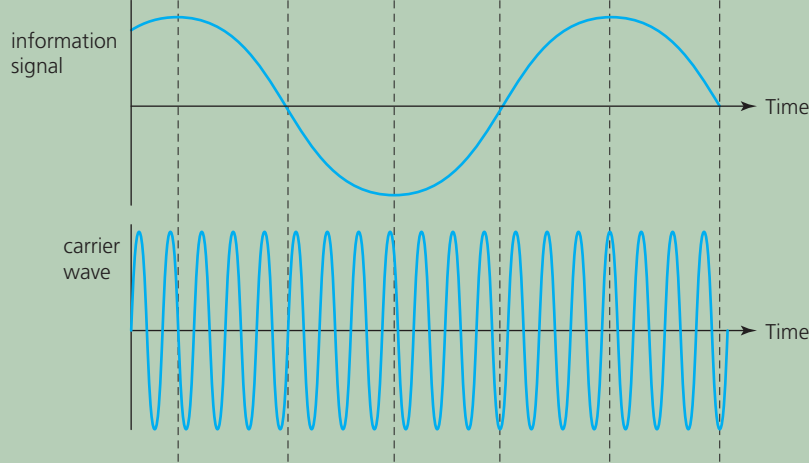

Figure Q2
- An information signal and a carrier wave are shown on the axes in Figure Q2. Make sketches to show how these can be combined to form